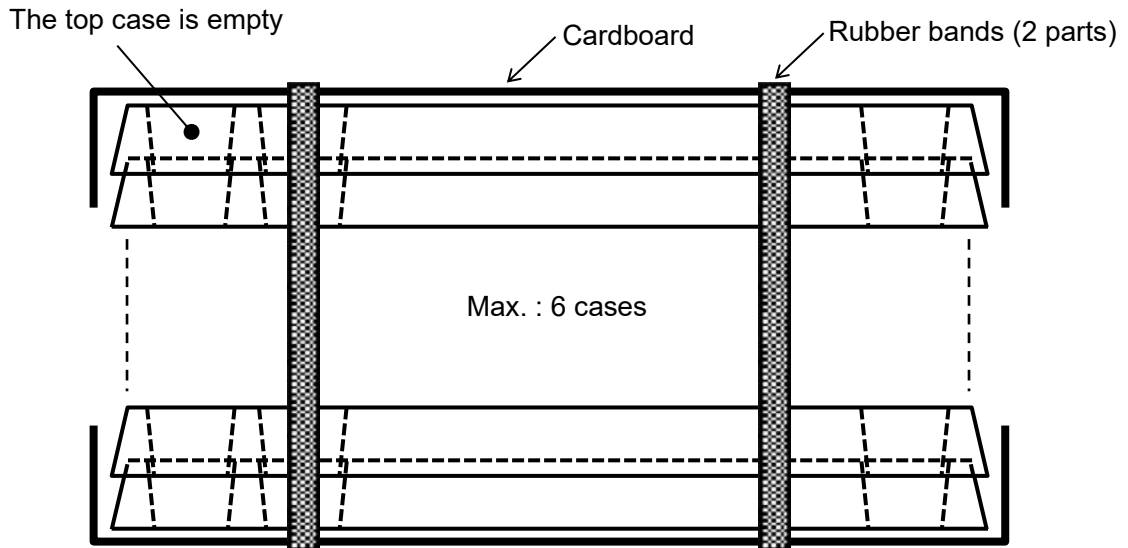

Fig.2
- (1) Put PD5 (Max. : 100 pcs.) in the packing case.
- (2) Pile up 6 cases (the top case is empty), cover top and bottom with the cardboard and fix 2 parts with rubber bands. (Refer to Fig.2)